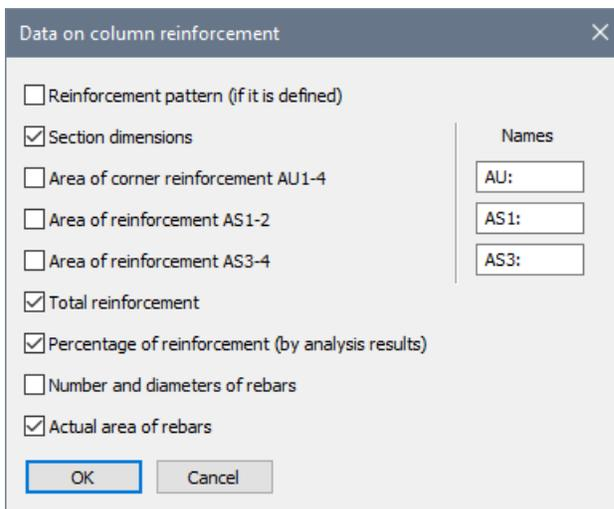

Figure 27.10. **Data of column reinforcement** dialog box
- ⇒ In the **Data of column reinforcement** dialog box (see Fig. 27.10), define the following: